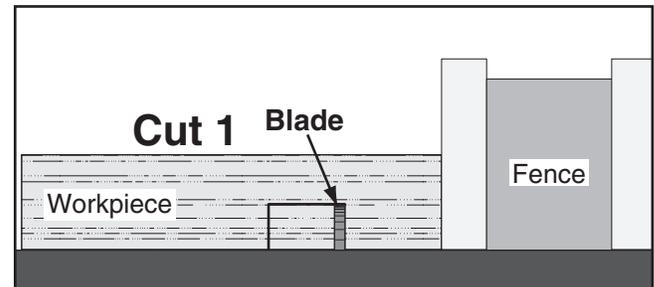

Figure 64. First cut for a single-blade dado.
5. Align the blade to cut one of the dado sides, as shown in **Figure 64**.